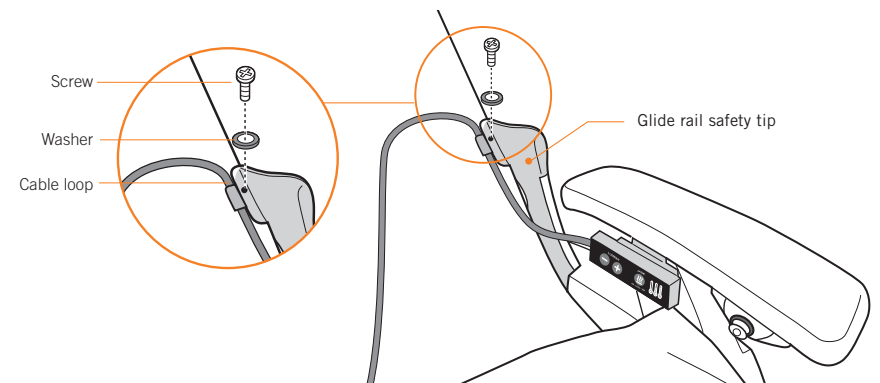

Fig.12
8. Using a Phillips-head screwdriver, remove the screw and washer that secure the left-hand glide rail safety tip (Fig.12).
9. Place the control panel cable loop into position over the screw hole, then replace the screw and washer to secure it. (Fig.12).